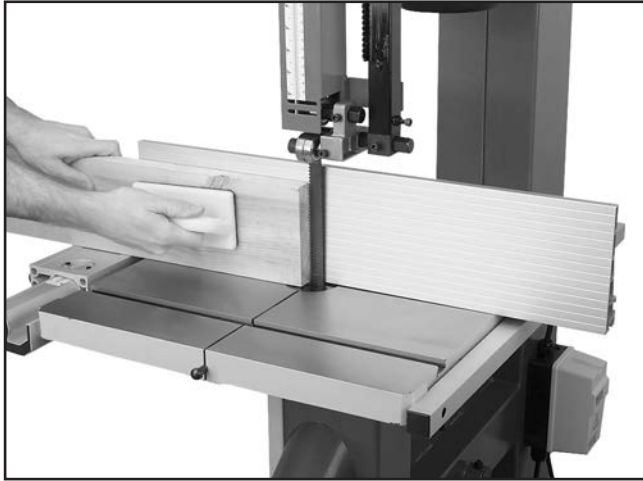

Figure 42. Resawing lumber.
Resawing (see **Figure 42**) is the process of cutting a board into two or more thinner boards. The maximum board width that can be resawn is limited by the maximum cutting height of the bandsaw.
6. Using push paddles and a push stick, keep pressure against the fence and table, and slowly feed the workpiece into the moving blade until the blade is completely through the workpiece (see **Figure 42**).